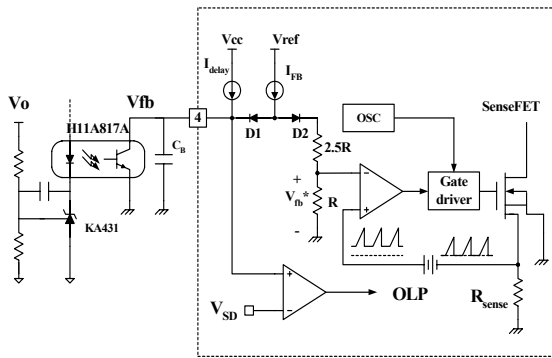

Figure 6. Pulse width modulation (PWM) circuit
2. **Feedback Control** : FS7M-series employs current mode control, as shown in Figure 6. An opto-coupler (such as the H11A817A) and shunt regulator (such as the KA431) are typically used to implement the feedback network. Comparing the feedback voltage with the voltage across the Rsense resistor plus an offset voltage makes it possible to control the switching duty cycle. When the reference pin voltage of the KA431 exceeds the internal reference voltage of 2.5V, the H11A817A LED current increases, thus pulling down the feedback voltage and reducing the duty cycle. This event typically happens when the input voltage is increased or the output load is decreased.
2.1 **Pulse-by-pulse current limit**: Because current mode control is employed, the peak current through the Sense FET is limited by the inverting input of PWM comparator (V_{fb}^*) as shown in Figure 6. The feedback current (I_{FB}) and internal resistors are designed so that the maximum cathode voltage of diode D2 is about 2.8V, which occurs when all I_{FB} flows through the internal resistors. Since D1 is blocked when the feedback voltage (Vfb) exceeds 2.8V, the maximum voltage of the cathode of D2 is clamped at this voltage, thus clamping V_{fb}^* . Therefore, the peak value of the current through the Sense FET is limited.